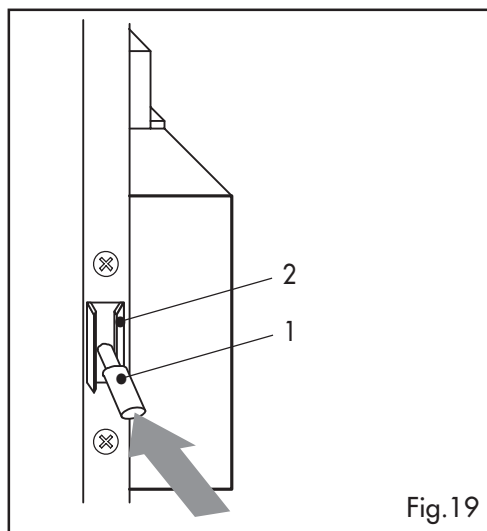

Fig.19
- Open the upper front door and insert the safety disabling key ref. 1 (Fig. 19) into the slot ref. 2 (Fig. 19) located on the left vertical support beam of the machine.
- After completing this procedure, re-activate the safety mechanisms by removing the safety disabling key ref. 1 (Fig. 19) from its slot.
- Insert the safety disabling key so that you can dispense an espresso and check the modified grind setting without closing the front door ref. 1 (Fig. 19).
- Remove the safety disabling key and close the front door ref. 1 (Fig. 19).